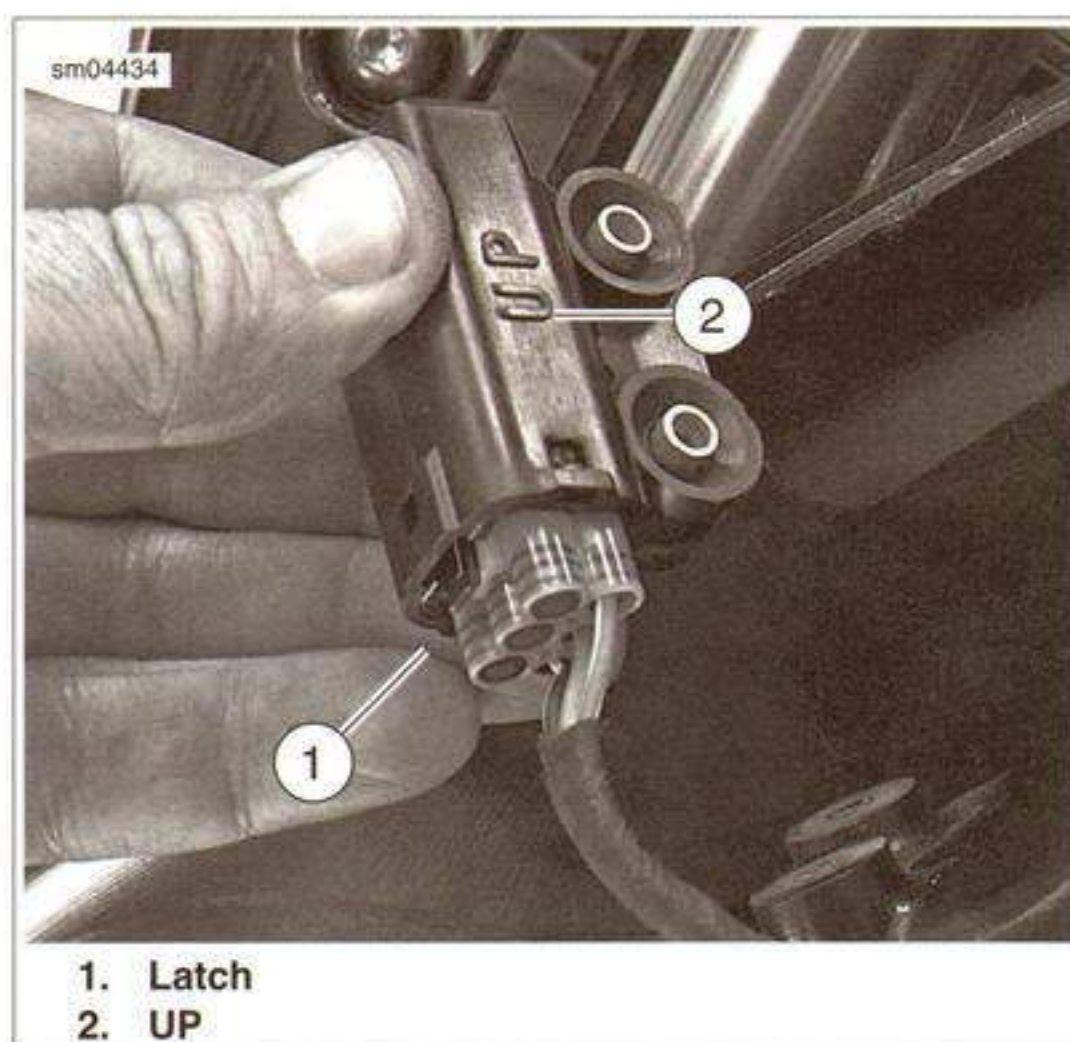

Figure 4-10. Bank Angle Sensor
3. See Figure 4-10. Lift the latch (1) to release the socket housing from the BAS.
4. Install the BAS with the embossed UP (2) up.